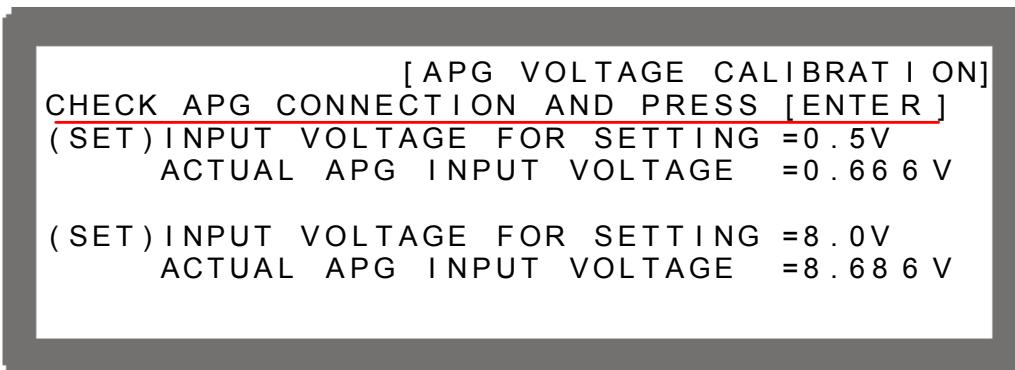

Figure 3-118
2. Press “” to confirm and go to the APG Voltage Calibration options as shown in Figure 3-118.